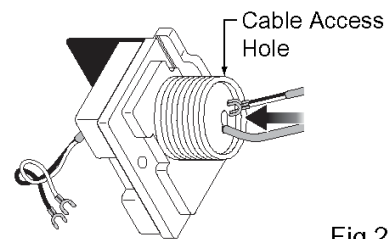

Fig.2
9. To access the cable screws rotate the Quick Cable Connector 90° counterclockwise. (Figure 2)
10. Insert wire cable through the Cable Access Hole so that it can be accessed from the back. (Figure 2)